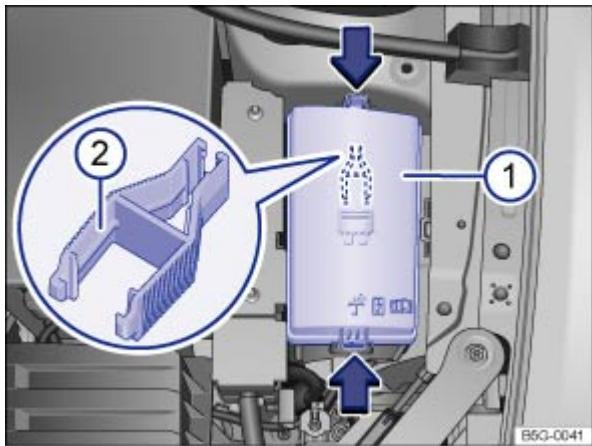

Fig. 170 In the engine compartment: Fuse box cover ① with tweezers ②.
- Press the release tabs in the direction of the arrows ⇒ Fig. 170 to unlock the fuse box cover ①.
In some vehicles, there are plastic tweezers for removing fuses on the inside of the fuse box cover ⇒ Fig. 170② .